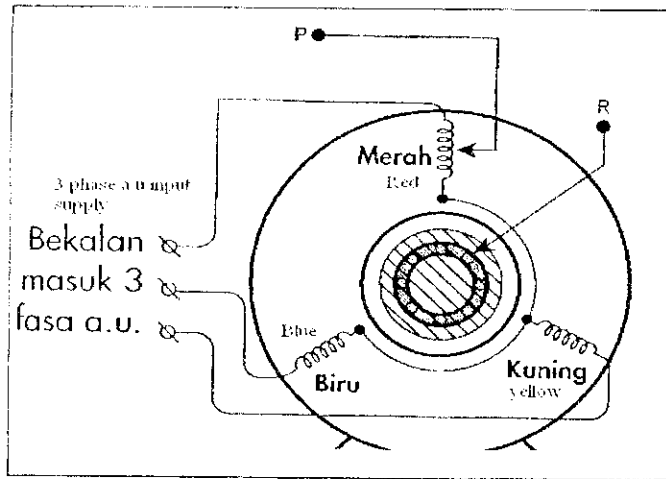

Figure 9
19. Figure 9 shows a three phase induction motor circuit.